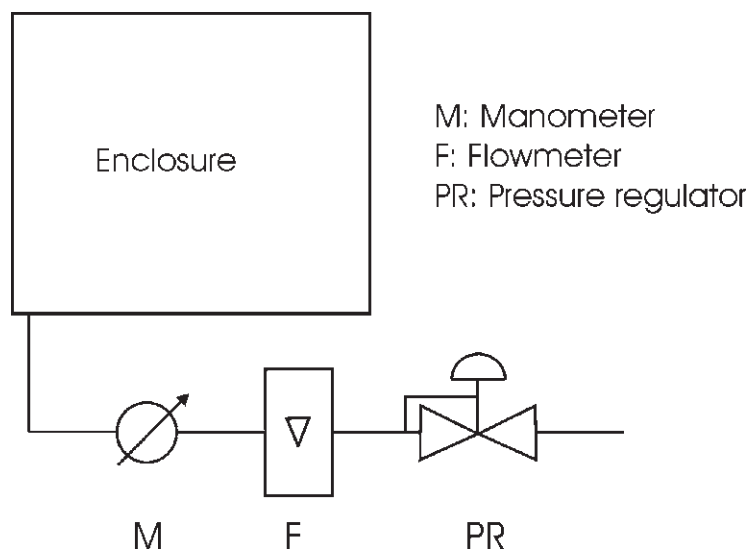

Fig. 4-2
- Connect an external source of compressed air as described in the drawing on the next page (fig. 4-2).